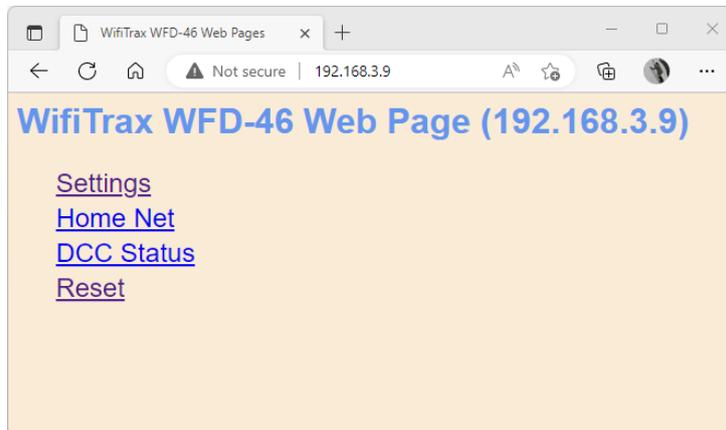

Figure 7 The WFD-46 Web Setup Main Menu
- (3) You should now see the Web Setup Main Menu as in Figure 7. You can click or tap on any of the headings in the menu to access the setup for that feature.
To modify General Settings, tap the “Settings” heading in Figure 7.
To change to Home Net mode, tap the Home Net heading in Figure 7. Optionally download the FindModules app for later use (see section “FindModules App”).